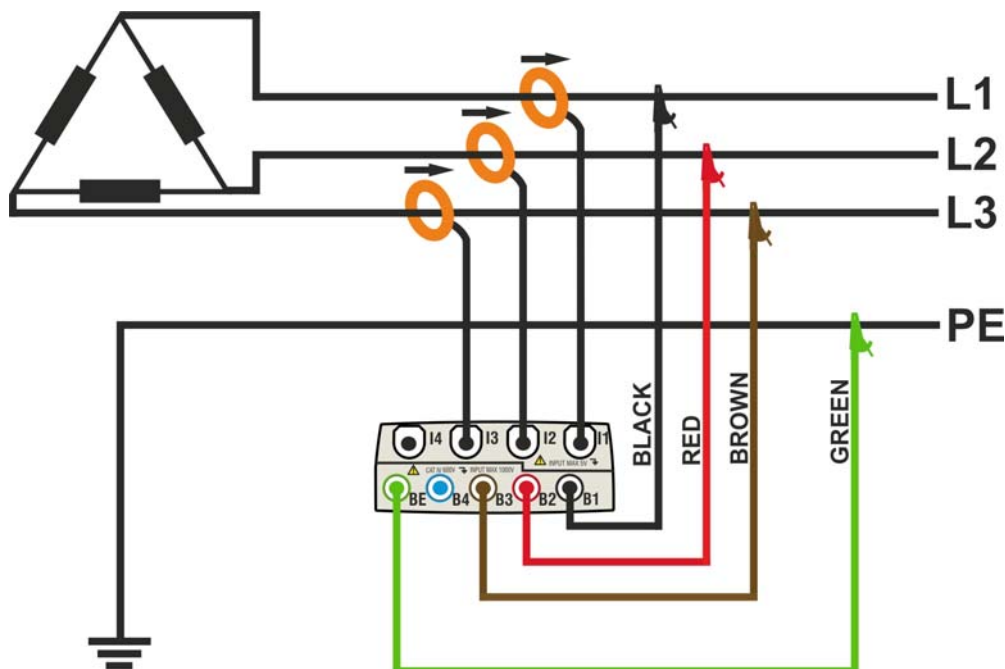

Fig. 120: Meter connection in a three phase 3-wire ARON system – ENG type
2. Connect voltage test leads on Phases L1, L2, L3, and Ground cables considering the colours as shown in Fig. 120. **Verify the result “123” at display relative to a correct phase sequence indication** (see § 5.2.1) and perform the corrections if necessary.
3. Connect the transducer current clamps on Phase L1, L2, L3 cables as shown in Fig. 120 respecting the clamp's arrow direction indicating the current standard sequence from generator to load. **On Real Time Values' section screens (selecting a 3 wire system preliminarily) always verify the positive value of Active Power and the power factor relative to load which should be normally inductive** before starting a recording. Reverse the clamp by 180 degrees on cables in case of negative readings.